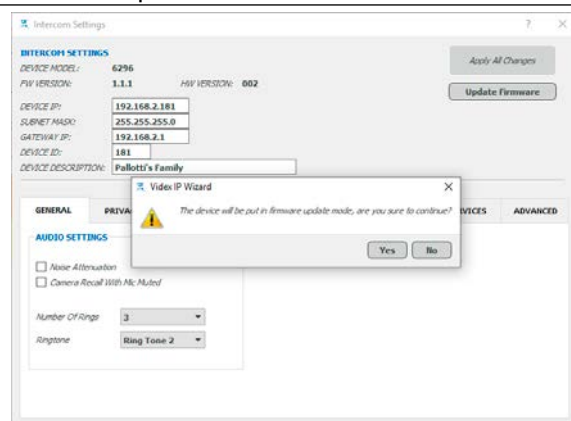

Fig. 42 Confirm the update clicking on yes button
- Confirm the update operation (**Fig. 42**).